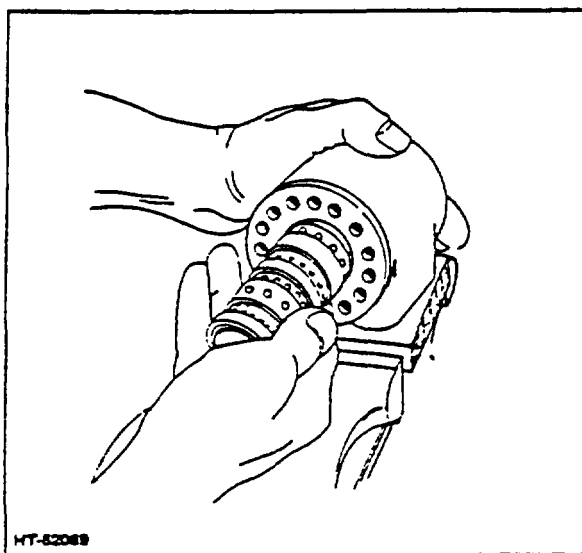

Figure 23. Installing Spool Assembly
9. Place the housing on a solid surface with the port face down. Install the spool assembly with the splined end of the spool entering the 14-hole end of the housing first (Fig. 23). Push parts gently into place with a slight rotating motion.